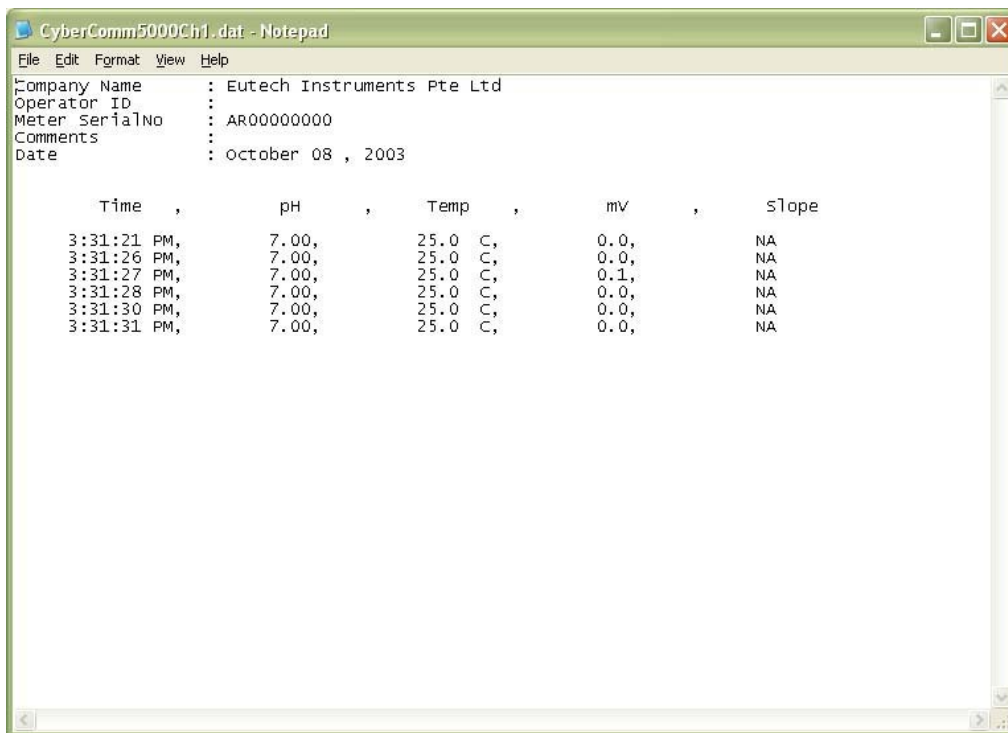

Figure 33: Data Results Report in Notepad .txt
- i) Data saved will be shown as per Figure 33: Data Results Report in Notepad .txt below.